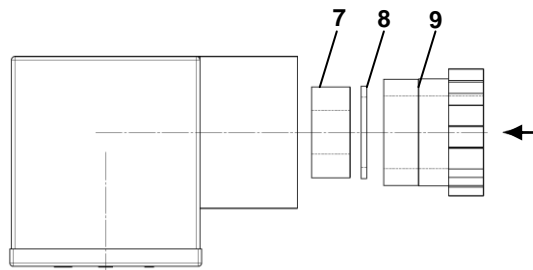

Figure 5
- Lead the connection line through the cable screw gland pos. 9, the pressure ring pos. 8 and the rubber insert pos. 7 into the socket (Fig. 5).